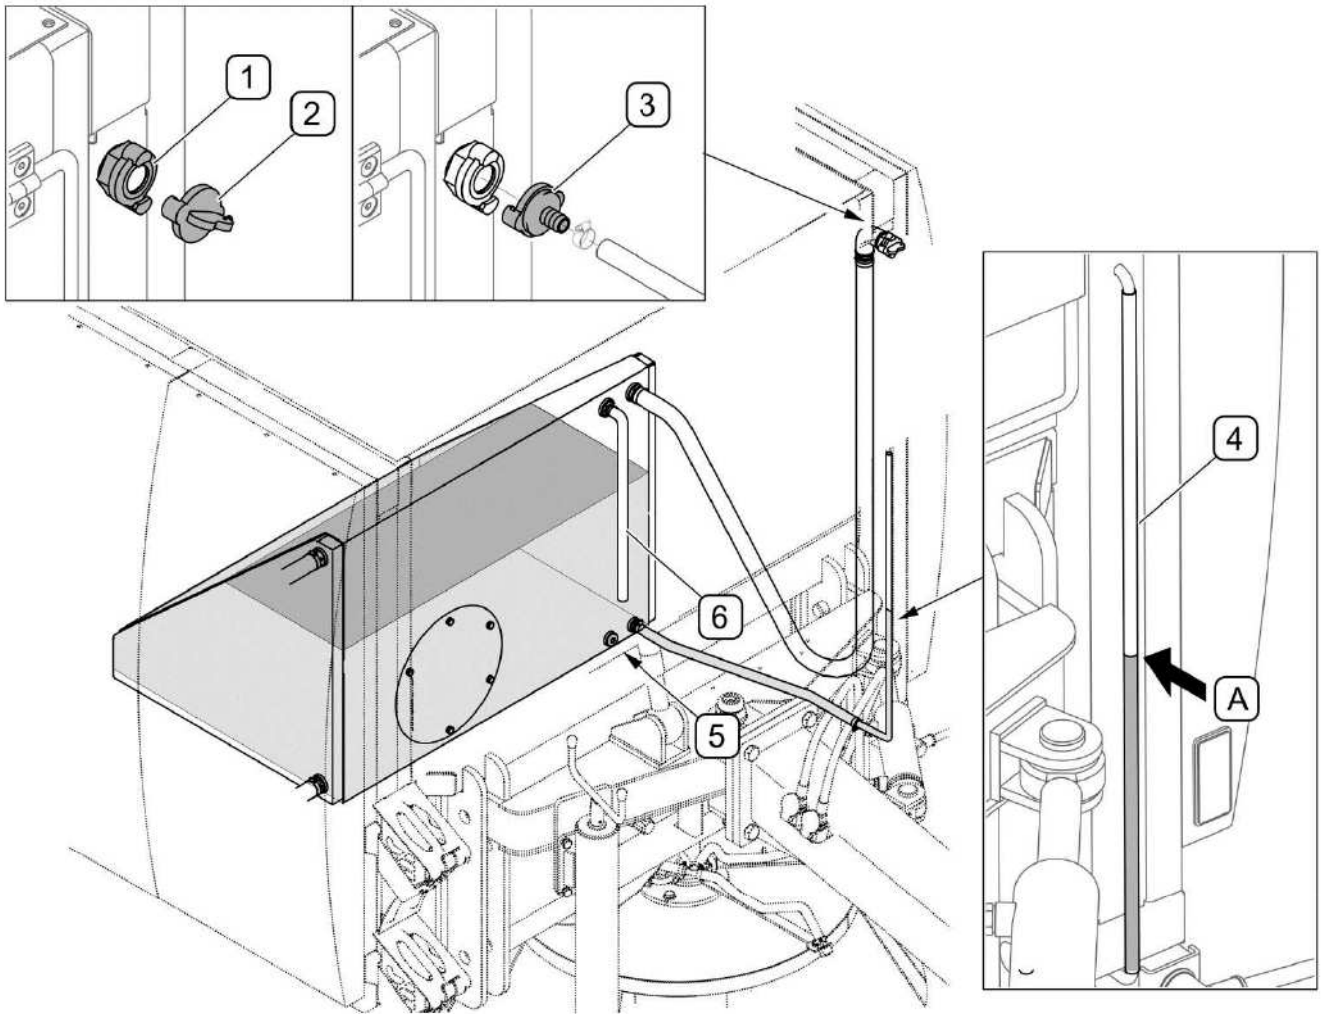

FIG. 4.7 Water tank of sprinkler system
The sprinkler system's water tank of capacity 240 litres is equipped with water level indicator (4) located on the front left-side post of the frame (FIG. 4.7). The tank is filled with water through inlet opening (1) which is protected with plug (2) and located in the upper part of the left-side post of the frame. The tank may be filled directly from water supply system using special claw joint (3) (machine equipment) or using a common hose placed in the inlet opening pipe (1). Drain plug (3) of water tank is located in the lower right-side section of the tank's front wall. Level of water in the tank should be checked during machine operation.